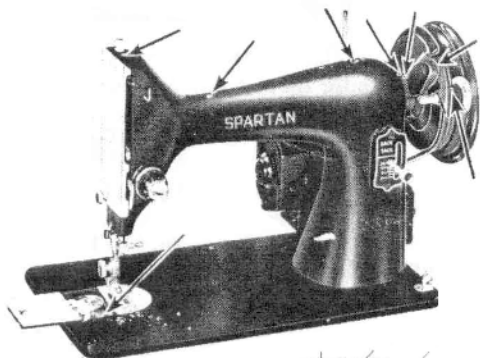

Fig. 19
- Apply a drop of oil to each of the places indicated in **Figs. 19, 20 and 21.**